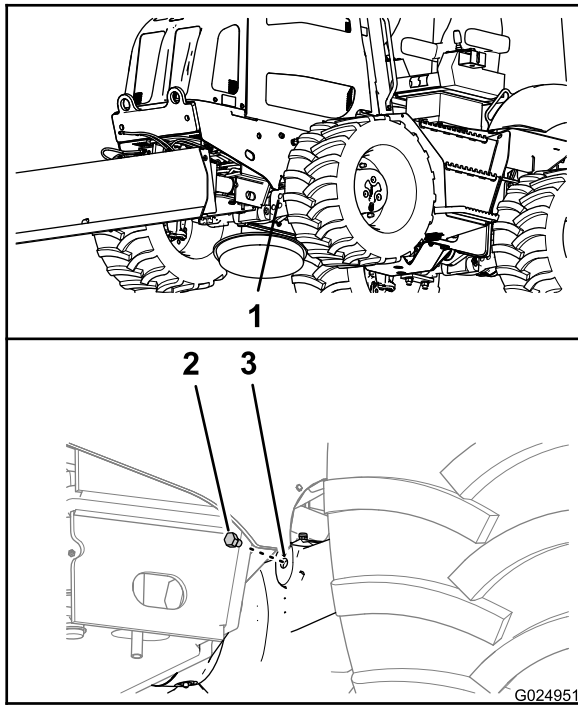
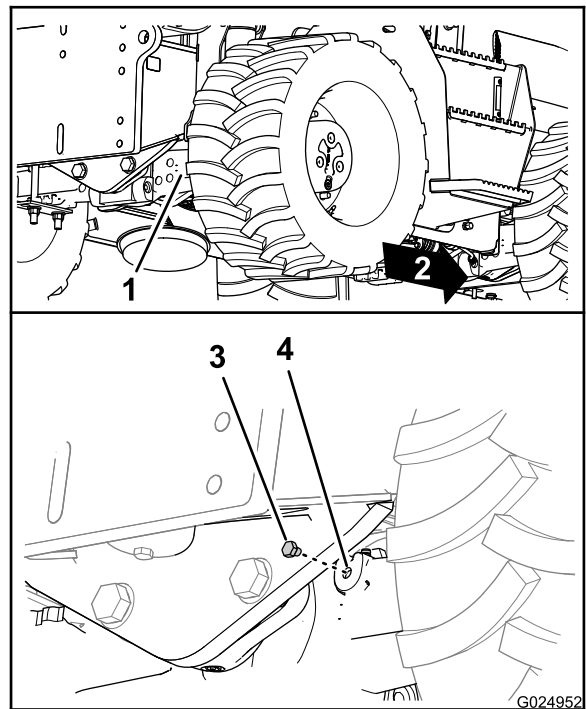

Figure 91
Figure 92
2. Remove the plugs from the sight port in the pinion housing of the axle (Figure 91 and Figure 92).
3. Look through the sight port and check that the oil level in the axle is level with the bottom of the threads of the port (Figure 91 and Figure 92).
6. Install the sight plug into the sight port in the pinion housing of the axle (Figure 91 and Figure 92).